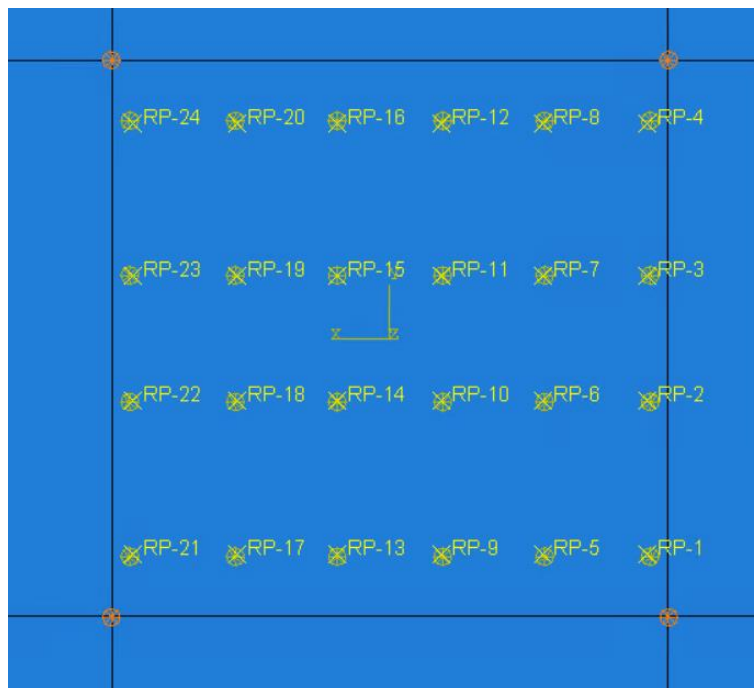
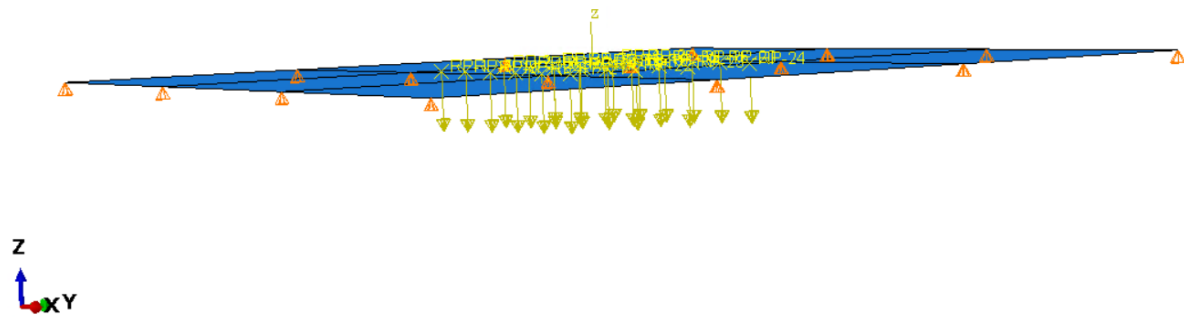

Figure 2-7 – Zoomed view of the model in the x-y plane.
Figure 2-8 – Perspective view of the model.
10. Your model should look like Figure 2-7 (zoomed view in the x-y plane) and Figure 2-8 (perspective view).
We see that the concentrated loads are very close to the reference points (Figure 2-7).